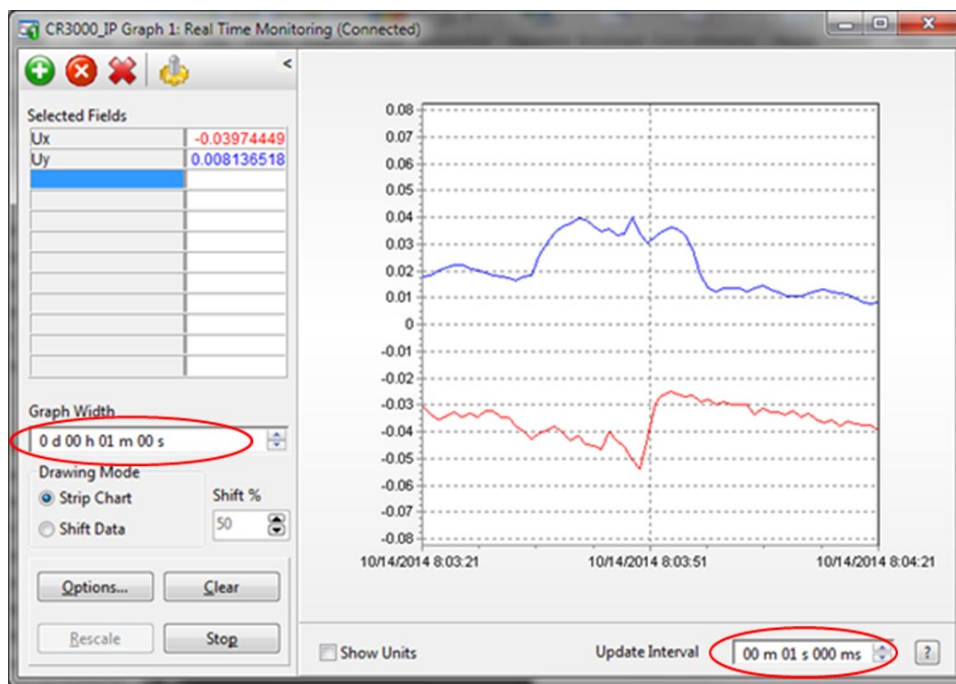

Figure 8-4. CSAT3BH real-time data with 1 sec update and u_x and u_y wind components graphed
- a. On the first graph, add the u_x and u_y wind components and set the y limits from -0.08 to 0.08 as shown in Figure 8-4 (p. 86).